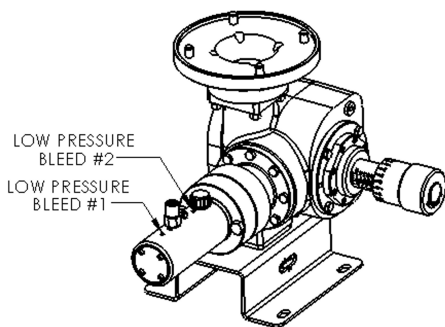
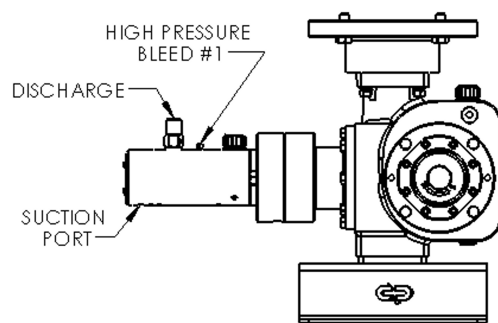

Figure 3
Figure 4
9. Connect the suction line to the suction port (see figure 4). Connect the discharge line to the discharge check valve. Line size must be equal or greater than check valve connection. Liquid level should be equal to or higher than suction port. Open low pressure bleeds 1 & 2 until all air is evacuated from pump head, (see Figure 3).
10. Open High Pressure bleed #1, while pump is running, until all air is evacuated from pump head, (see figure 4).